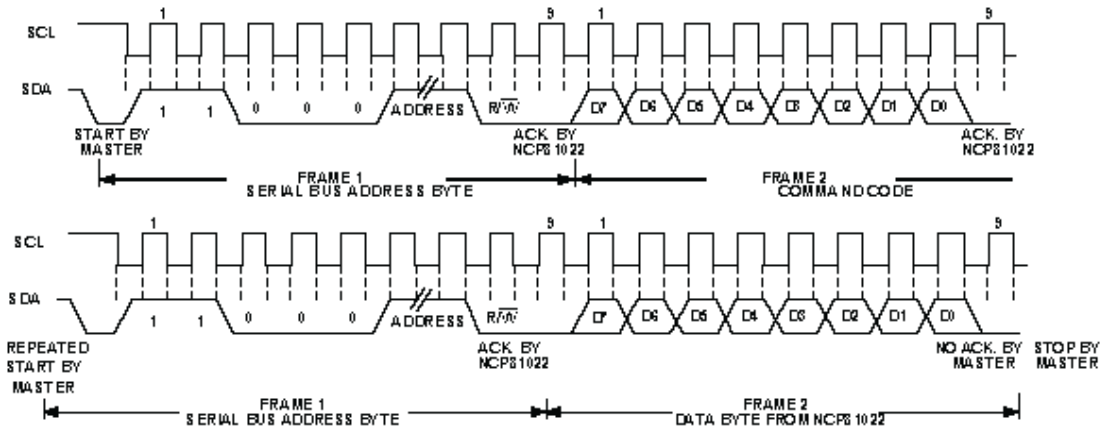

Figure 23. Read Byte
2. The read byte operation is shown in Figure 23. First the command code needs to be written to the NCP81022 so that the required data is sent back. This is done by performing a write to the NCP81022 as before, but only the data byte containing the register address is sent, because no data is written to the register. A repeated start is then issued and a read operation is then performed consisting of the serial bus address; $R/\overline{W}$ bit set to 1, followed by the data byte read from the data register.